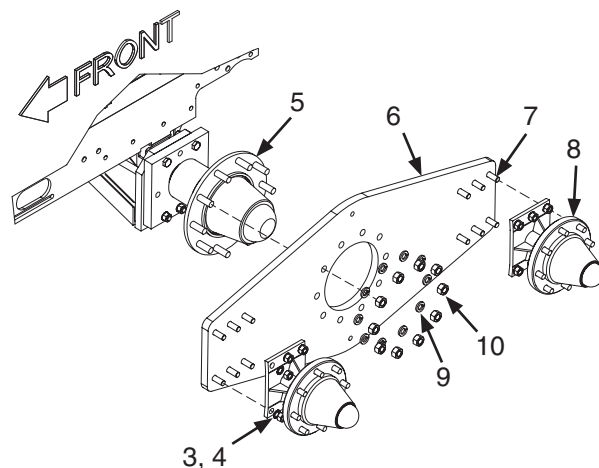

Figure 2-3-4 - Mounting Walking Beam Plate
E. (See Figure 2-3-4) Place (1) Item 6 Walking Beam Plate on the hub. Place (10) Item 9 Lock Washers and Item 10 Nuts on the spindle. Place (12) Item 7 Bolts through the Walking Beam Plate, then place (2) Item 8, Hub & Spindles onto the Walking Beam. Torque all nuts and bolts as per torque chart on page 2-3-1.